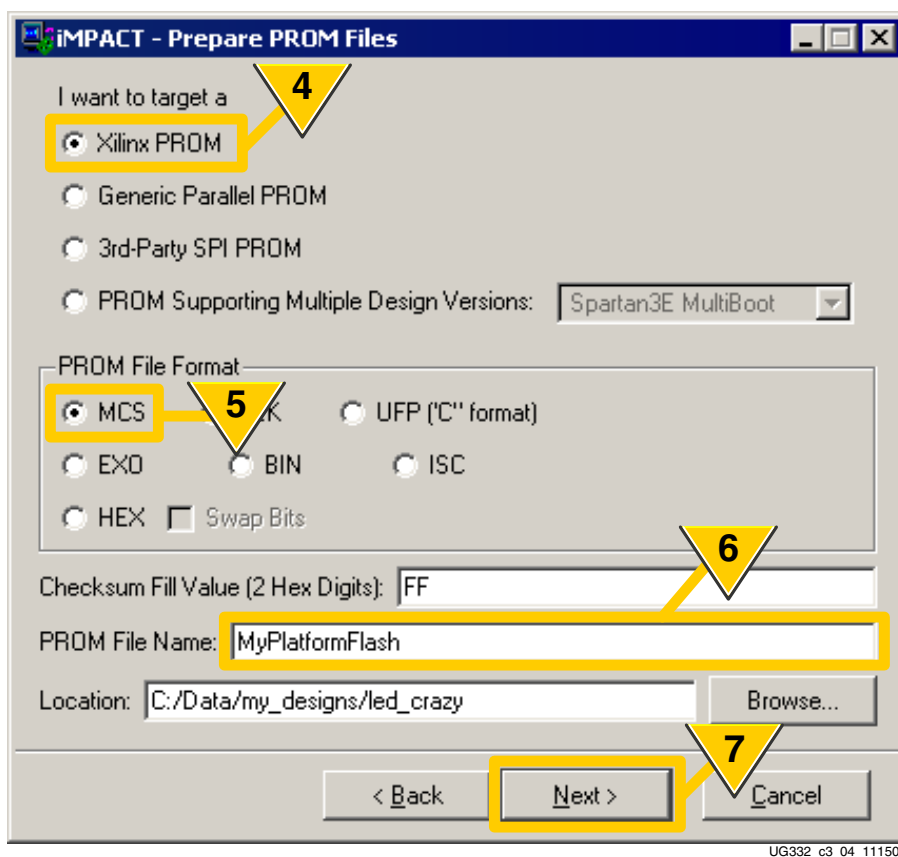

Figure 3-9: Set Options for Xilinx Platform Flash PROM
- As shown in Figure 3-9, format the FPGA bitstream or bitstreams for a Xilinx PROM.